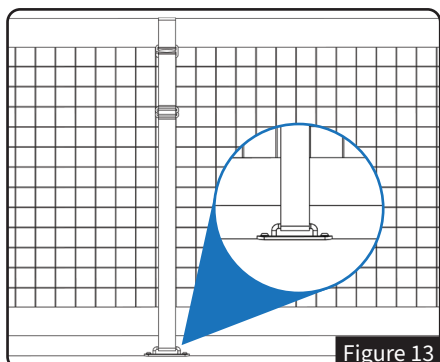

Figure 13
- Thread the **Center Strap (Part J)** through the tab on the **Center Tube (E)** of the frame.
- Route the strap over the top of the net and secure with the attached hook. See *Figure 13*.